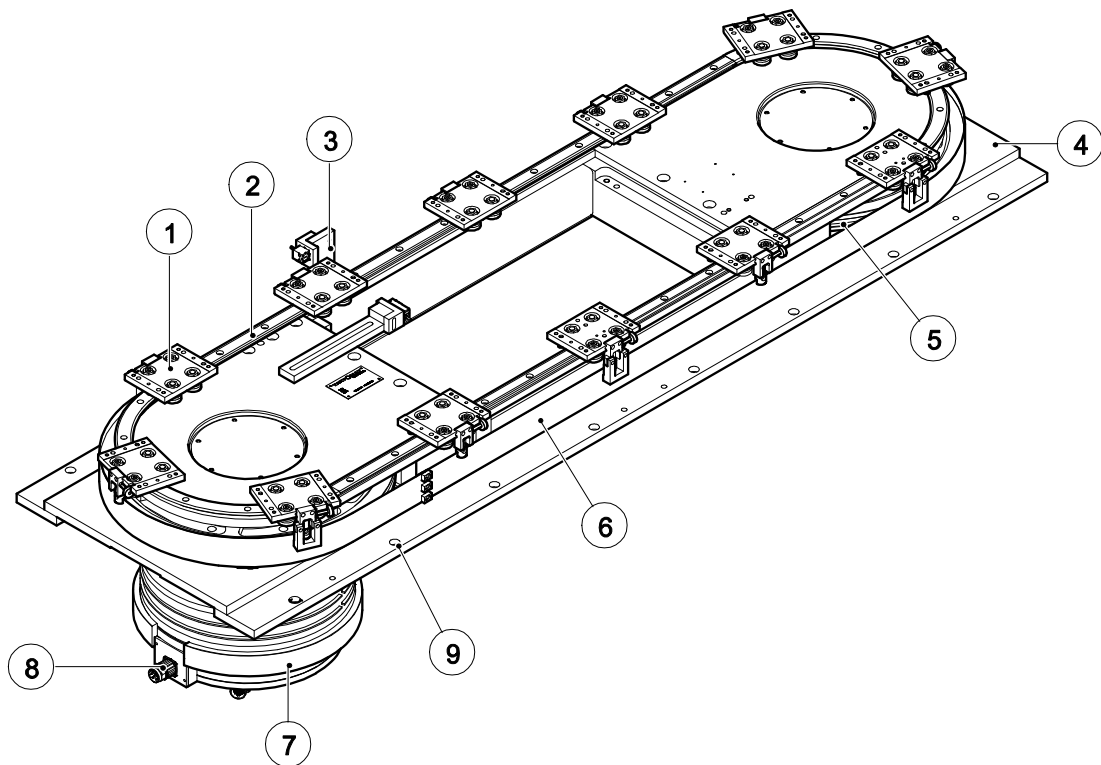

Figure 1 Overall view of the linear indexing conveyor
The linear indexing conveyor is made up of two deflection pulleys fitted in the frame (Figure 1/4), around which a steel conveyor belt (Figure 1/6) passes. The conveyor belt is driven by a torque motor (Figure 1/7). The workpiece carriers (Figure 1/1) are clamped to the conveyor belt. When the conveyor belt moves, the workpiece carriers are moved with a precise linear motion on a rail (Figure 1/2) mounted on the frame. The position of a workpiece carrier is referenced for operation at the light barrier of the measuring sensor (Figure 1/3). The torque motor is connected to a frequency inverter that is part of the linear indexing conveyor.
- (1) Switch off power and unplug electrical connections.
- (2) Unscrew the screw connections (Figure 1/9) on the frame.